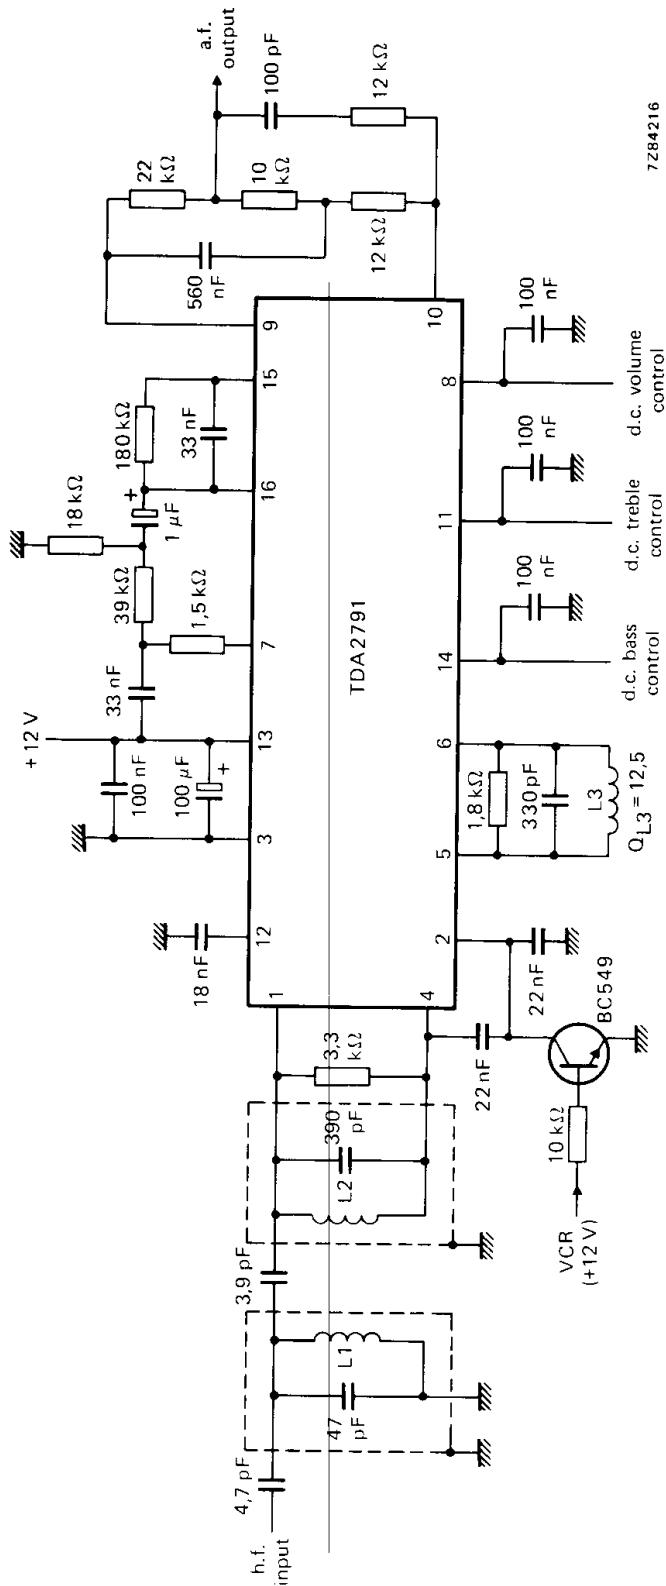

Fig. 9 Application circuit diagram.
**CHARACTERISTICS**Measured in Fig. 9 at  $T_{amb} = 25$  °C;  $V_{13-3} = 12$  V;  $f = 5,5$  MHz (unless otherwise specified)
(1) This is actually the a.f. output voltage as shown in Fig. 9.